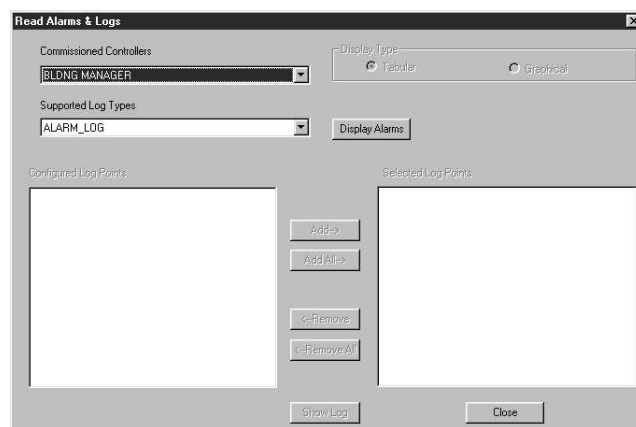

Fig. 58. Read Alarms and Logs for XL15A screen.
To view alarms on the XL15A Building Manager, select Controller menu and choose Read Alarms and Logs to open the Read Alarms and Logs Screen. Alternately, right click the Building Manager controller icon and choose Read Alarms and Logs. See Fig. 58. The Commissioned Controllers drop down list box will display the Building Manager and the Supported Log Types drop down list box will display ALARM_LOG. Click the Display Alarms button. The Alarm Message box will be displayed. This box shows the date, time, controller name and the alarm condition of the most recent alarm. Click View Next button to look at the next alarm. Click All Alarms button to view all alarms. Click the screen close icon (X) in the upper right corner when finished. See Troubleshooting section for more details on alarms and causes.